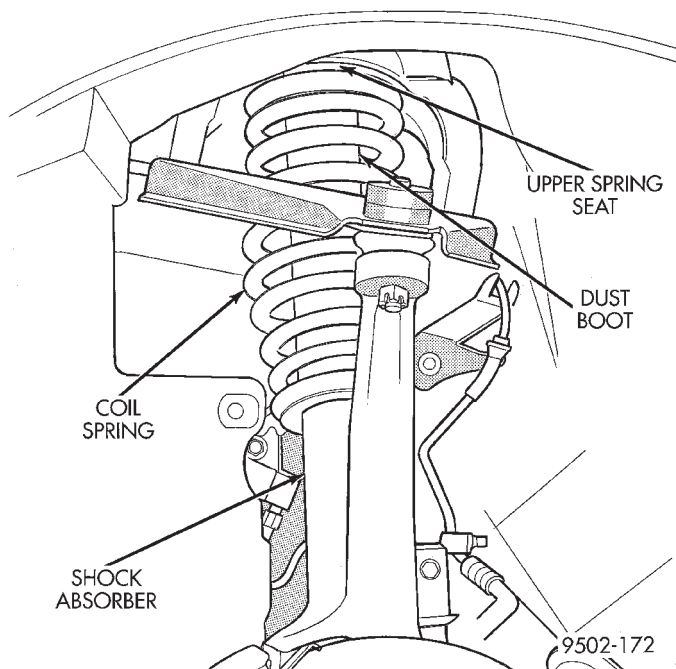

Fig. 2 On Vehicle Shock Absorber Assembly Inspection
(1) Inspect for damaged or broken coil springs (Fig. 2).
(2) Inspect for torn or damaged shock absorber dust boots (Fig. 2).
(3) Lift the dust boot and inspect the shock absorber for evidence of fluid running from the upper end of fluid reservoir. (Actual leakage will be a stream of fluid running down the side and dripping off lower end of unit). A slight amount of seepage between the shock absorber rod and the seal is not unusual and does not affect performance of the shock absorber. Also inspect jounce bumpers for signs of damage or deterioration (Fig. 2).